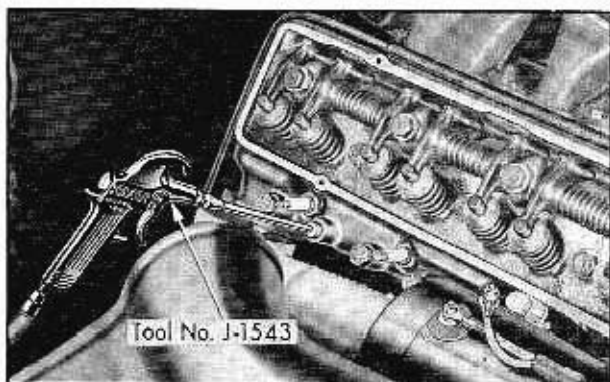

Fig. 13-4 Cleaning Cylinder Block
4. Remove second, third, sixth, and seventh cylinder head bolts from the lower row, next to the exhaust manifolds, one at a time and insert Cylinder Block Air Gun, Tool No. J-1543, Fig. 13-4. Blow air into each hole several times.